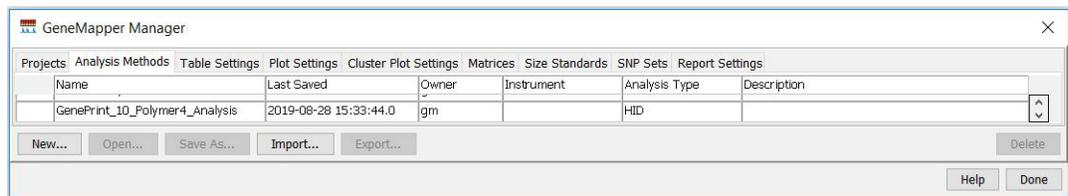

Figure 24. The *GenePrint* 10 Analysis Method will have 'HID' as the analysis type.
4. Note that this method will have 'HID' as the analysis type (Figure 24).